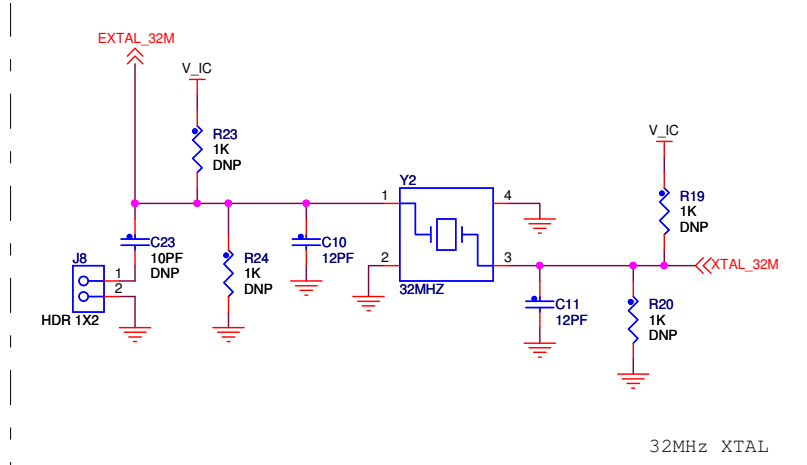

Figure 3-5. 1323x-MRB 32 MHz Reference Oscillator Circuit
- 32 MHz Reference Oscillator - Figure 3-5 shows the external 32 MHz external crystal Y2. This mounted crystal must meet the MC1323x specifications. The IEEE 802.15.4 Standard requires that the frequency be accurate to less than ± 40 ppm.